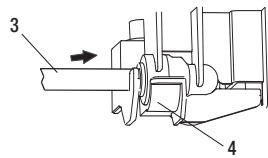

Figure 2
- When the water comes out from the the nozzle, please use a container to catch the water. (Figure 2)